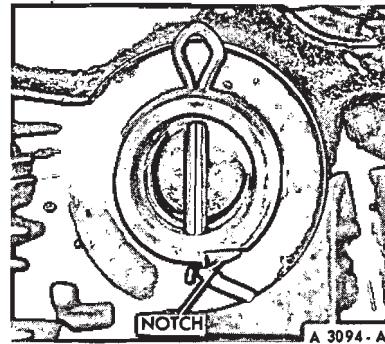

FIG. 7—Typical Installation Identification Mark-Rocker Arm Shaft Assembly
3. Position the baffle plate and the valve rocker arm shaft assembly(ies) on the cylinder heads with the valve push rods in place and the rocker shaft support bolts finger-tight. Be sure the shaft is positioned so that the oil holes are to the bottom. Also, the identification notch (Fig. 7) must be downward and toward the front on the right bank, or toward the rear on the left bank.
3. Install the rocker arms, supports and springs in the order shown in Fig. 8. Be sure the oil holes in the shaft are facing downward. When properly assembled, the identification notch (Fig. 7) on the right rocker shaft assembly must be facing downward and toward the front of the engine. On the left rocker shaft, the notch is downward and toward the rear. Complete the assembly by installing the remaining flat washer, spring washer and cotter pin.